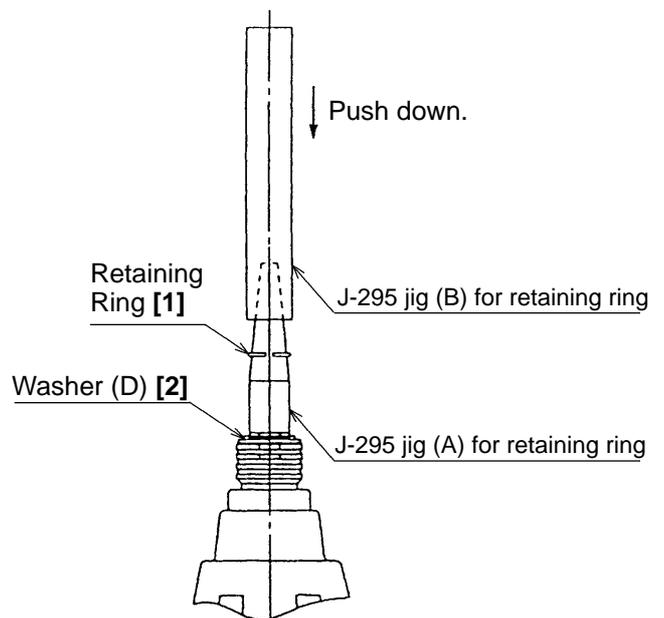

Fig. 6
(5) Reassembly of the Guide Sleeve [4] (for WH 8DH only)
Insert the Steel Ball D3.5 [7] into the hole of Anvil (B) [8]. Mount the Guide Sleeve [4], the Guide Spring [3] and Washer (D) [2] in sequence. Mount the Retaining Ring [1] into the groove of Anvil (B) using the J-295 jigs (A) and (B) for retaining ring as illustrated in Fig. 6.